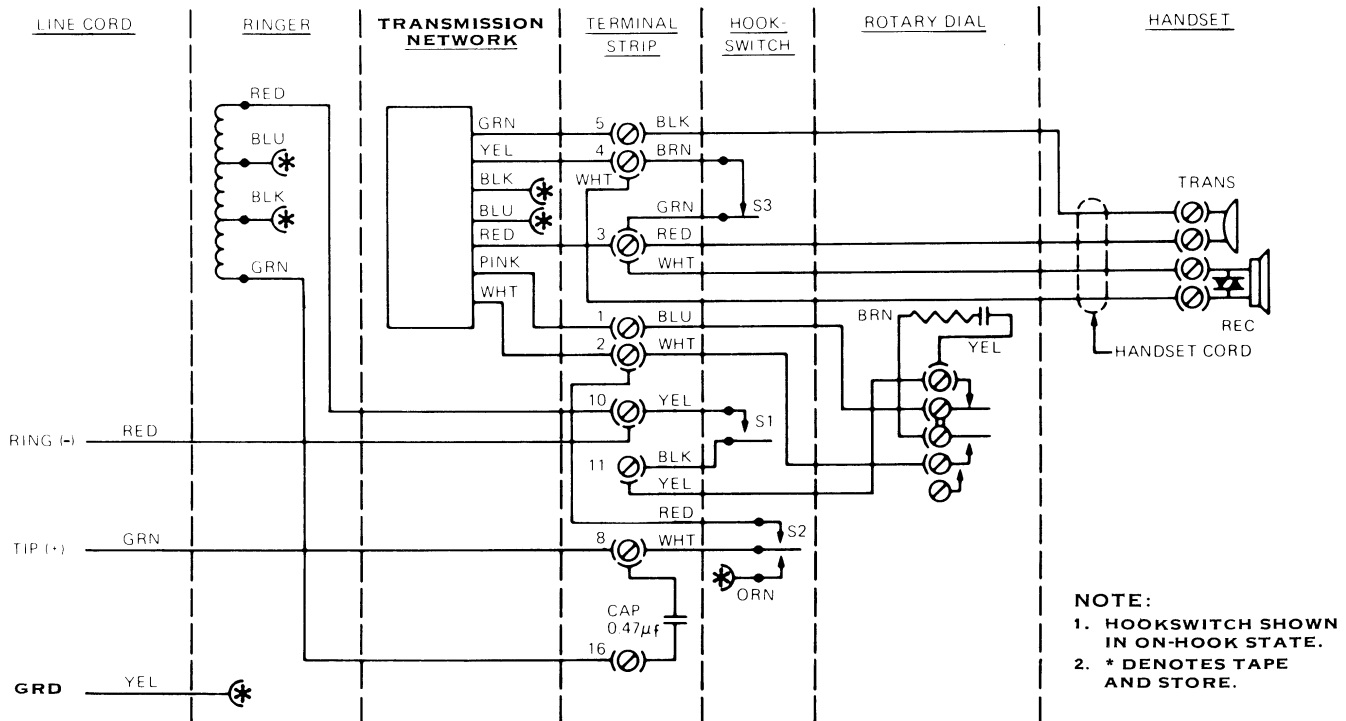
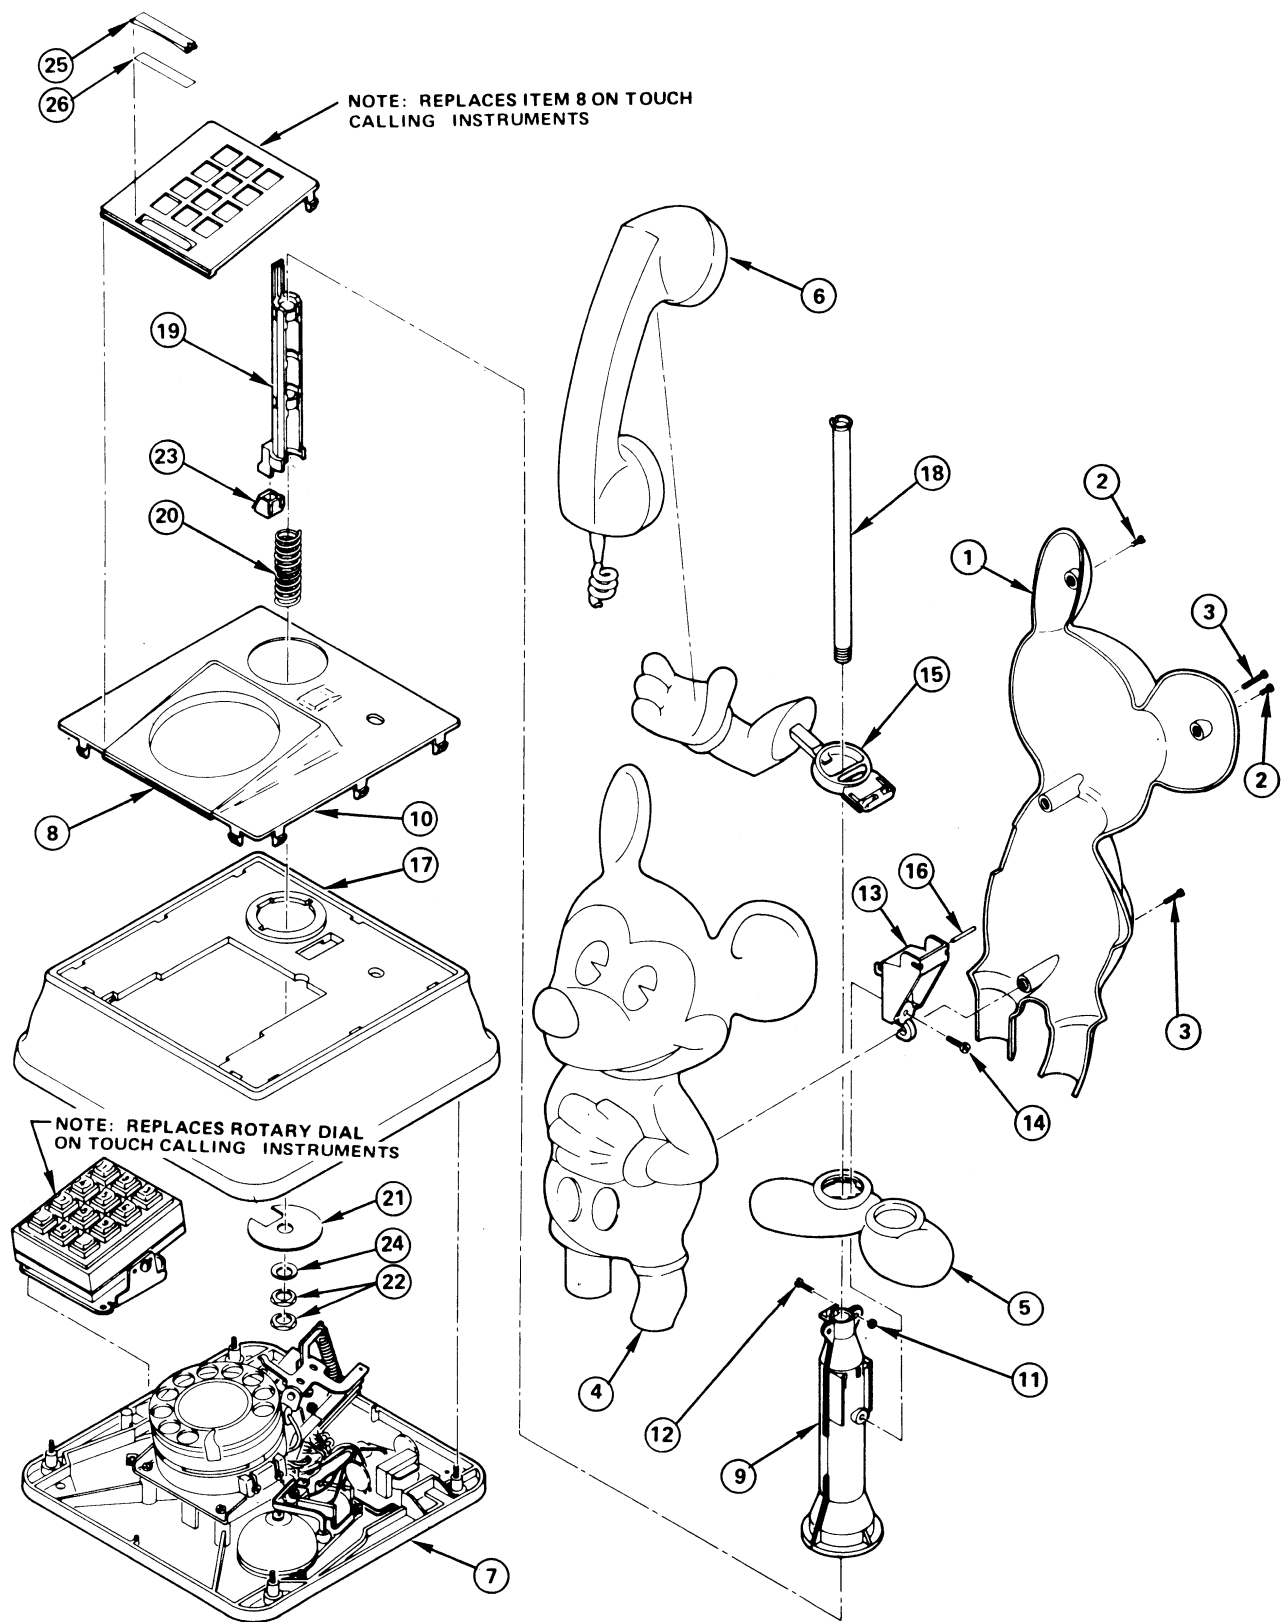
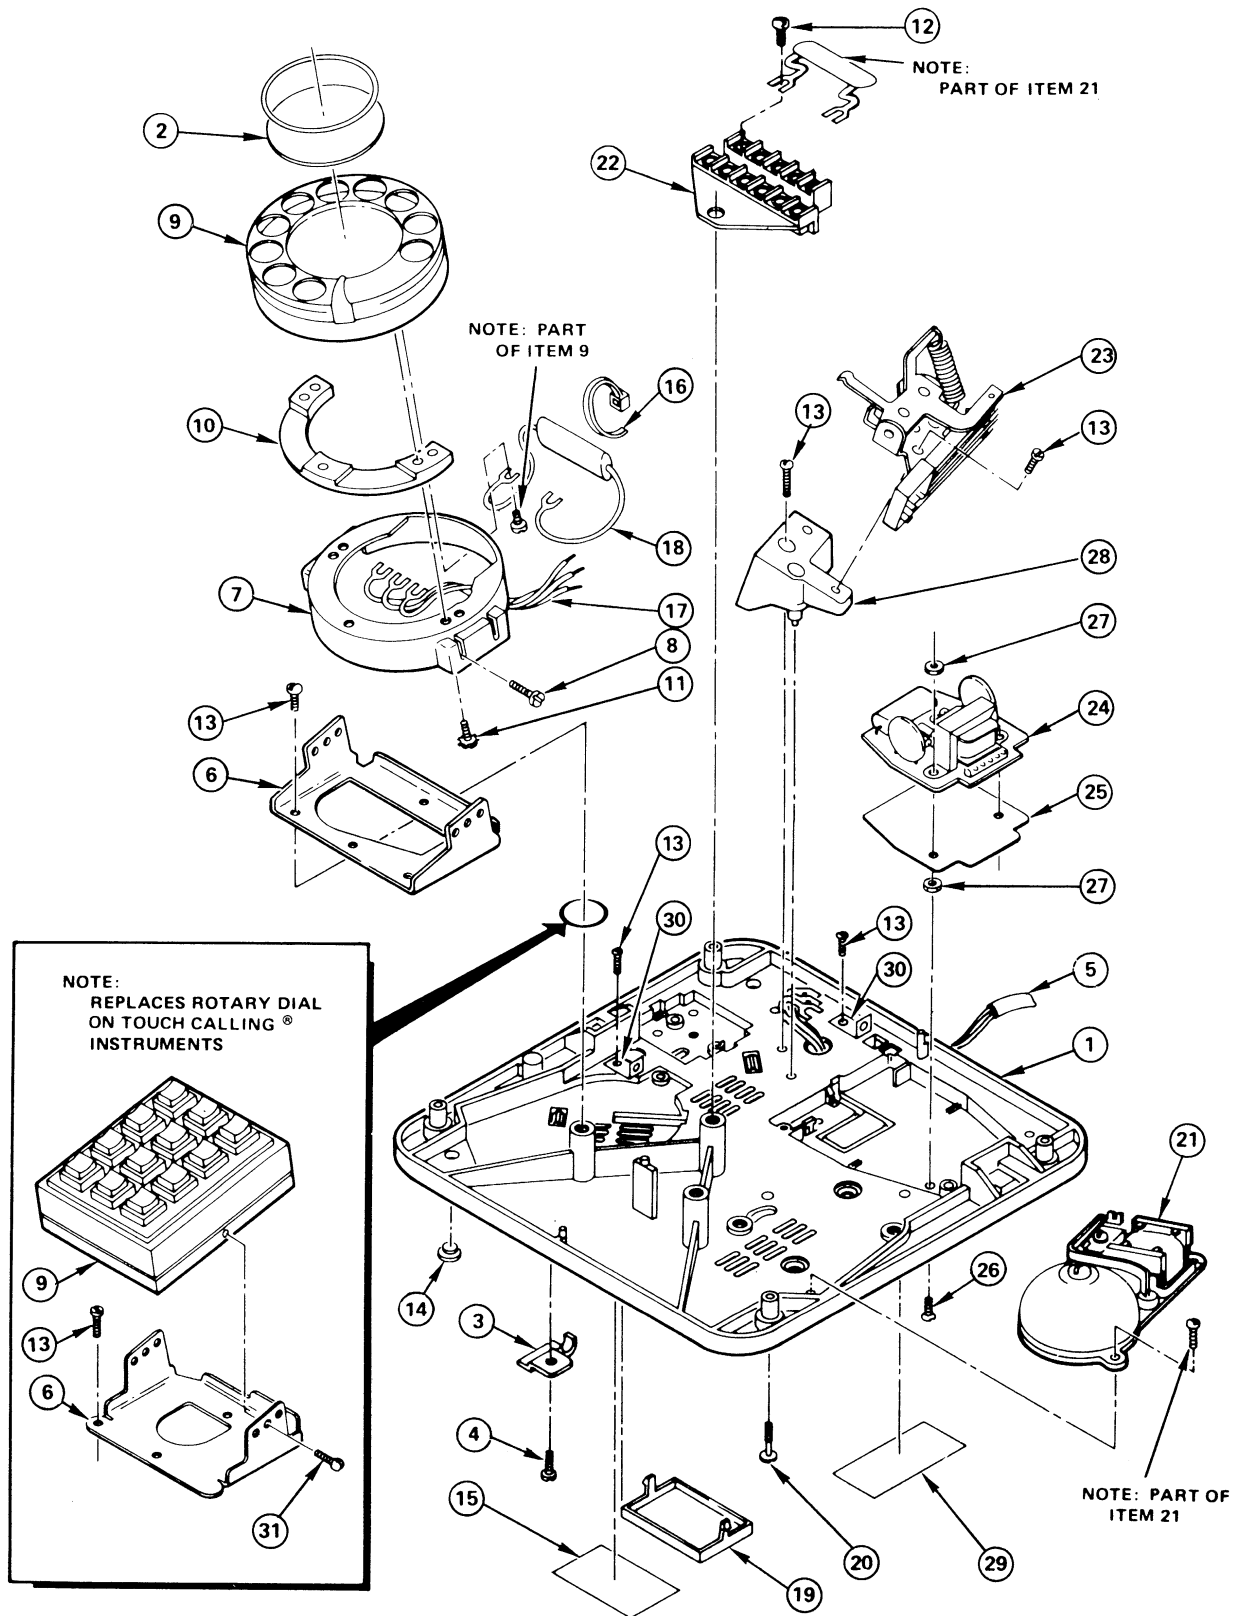
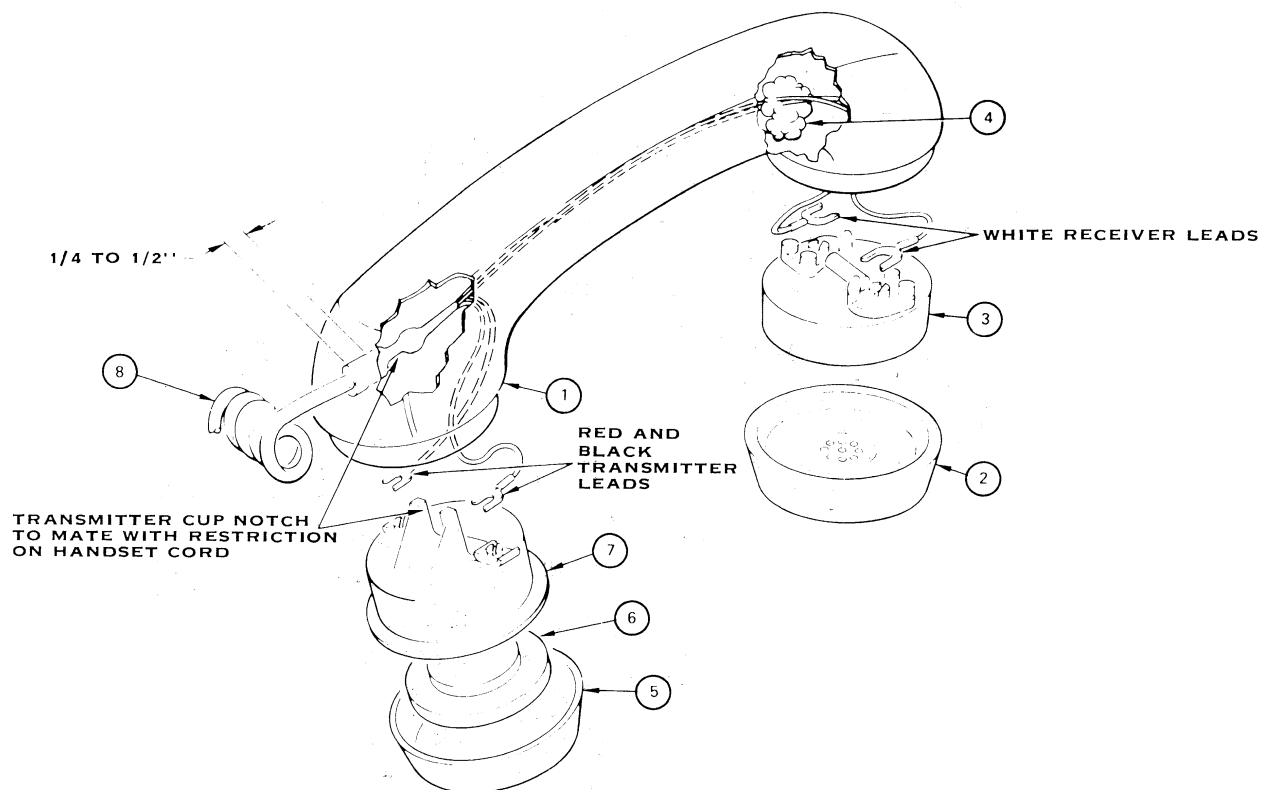

Figure 8. Typical Wiring Diagram of Mickey Mouse Telephone Equipped with Rotary Dial.
Figure 16. Mickey Mouse Telephone Assembly.
Figure 17. Mickey Mouse Telephone Base Assembly.
Figure 18. Mickey Mouse Telephone Handset Assembly.
6.12 To gain access to the components in the base assembly of the telephone, refer to Figures 16 and 17 and proceed as follows:
NOTE: Only the relevant item numbers of those shown in Figures 16, 17 and 18 are referenced in paragraphs 6.12 through 6.13.
- (a) Remove the handset (item 6 of Figure 16) from the actuator lever hand (item 15 of Figure 16) and lay the Mickey Mouse figure on its back.
- (b) Loosen the four captive screws (item 20 of Figure 17) securing the base assembly (item 1 of Figure 17) to the housing (item 17 of Figure 16).
6.13 To gain access to the transmission network connections or to replace the transmission network, refer to Figure 17 and proceed as follows:
- (c) Remove the two nuts (item 27 of Figure 17) securing the network.
mission network leads according to the wiring diagrams in Figures 8 and 9.
6.14 To replace the handset cord in the Mickey Mouse telephone, refer to Figures 17 and 18 and proceed as follows:
- (a) Unscrew the receiver cap (item 2 of Figure 18). Detach the WHT receiver leads from the receiver.
- (b) Unscrew the transmitter cap (item 5 of Figure 18). Remove the transmitter (item 6 of Figure 18) and the transmitter cup (item 7 of Figure 18) from the handset housing (item 1 of Figure 18). Detach the RED and BLK transmitter leads from the transmitter cup.
- (c) Remove the cotton ball (item 4 of Figure 18) and work the handset cord (item 8 of Figure 18) free from the handset housing (item 1 of Figure 18).
- (e) Loosen the screw (item 4 of Figure 17) and free the handset cord (item 8 of Figure 18).
- (f) Disengage the J-hook on the handset cord (item 8 of Figure 18) from the cord restraint bracket (item 30 of Figure 17).
- (g) Detach the handset cord lugs from the terminal board connections (item 22 of Figure 17) and pull the handset cord free of the base (item 1 of Figure 17).
- (i) Install the replacement handset cord by performing (a) through (g) in reverse order. Ensure that the transmitter cup notch (item 7 of Figure 18) engages the handset cord restriction when reinstalling the handset transmitter parts. Connect the handset cord leads according to the wiring diagrams in Figures 8 and 9.